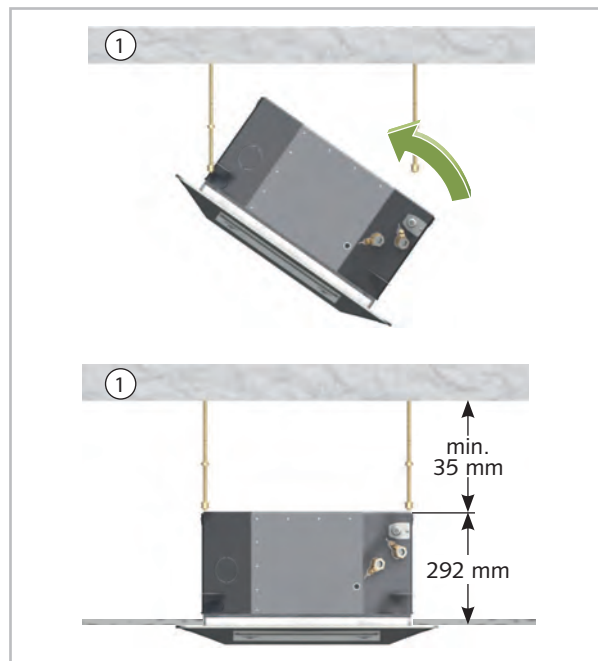

Fig. 11: Hooking in the unit (MVD 222-452)
2. Fit the indoor unit onto the threaded rods and use the lower nuts to level the unit (Fig. 11).